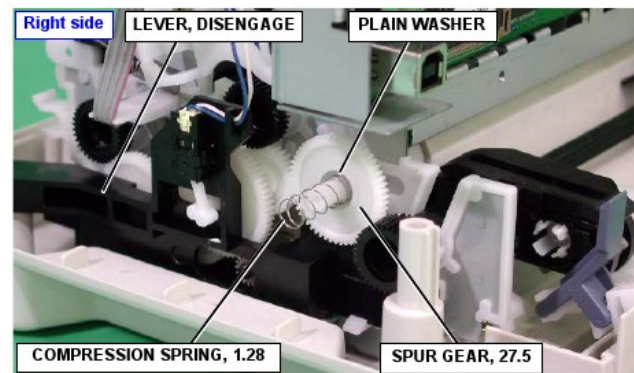

Figure 4-39. SPUR GEAR, 27.5 Removal
- When installing SPUR GEAR, 27.5, set the LEVER, DISENGAGE in the Tractor Feed direction. (See Figure 4-39)